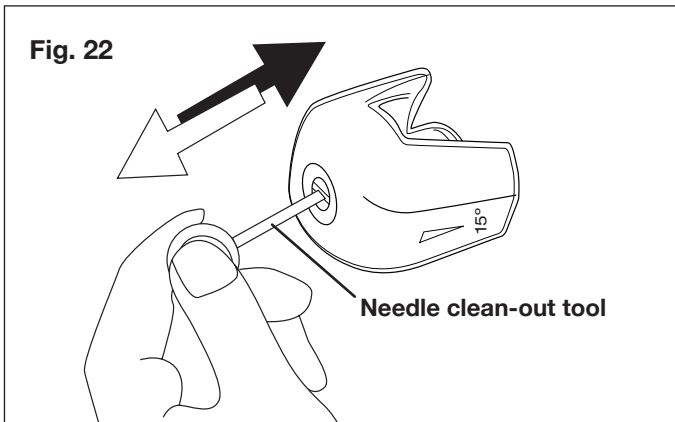

Fig. 22
2. Clean the nozzle with the needle clean-out tool provided (Fig. 22). Remove the spray wand from the gun; remove any dirt from the nozzle hole and rinse.